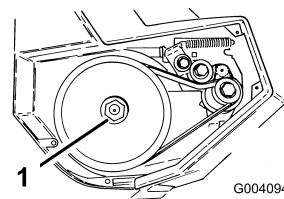

Figure 15
3. Hold the hex nut with a 7/8 inch wrench while unscrewing the rotor shaft (Figure 15).